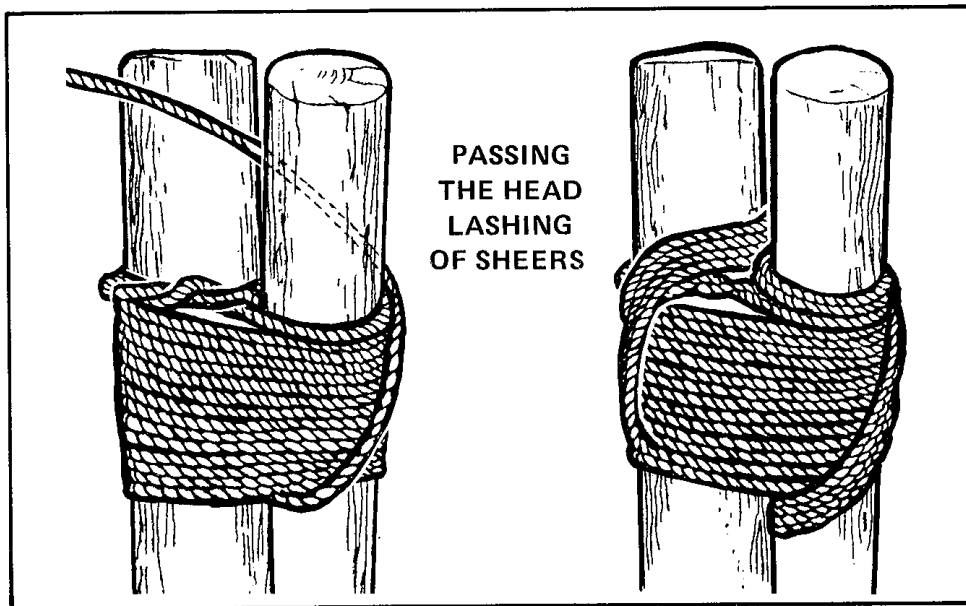

Figure 4-73 Passing the Head Lashing of Sheers
31. **To Rig Sheers** — (See Figures 4-73, 4-74 and 4-75.) The **spars** for the legs are laid side by side with their heels together and their heads supported conveniently clear of the ground or deck. The heads are then lashed together as described below and illustrated in Figure 4-73.